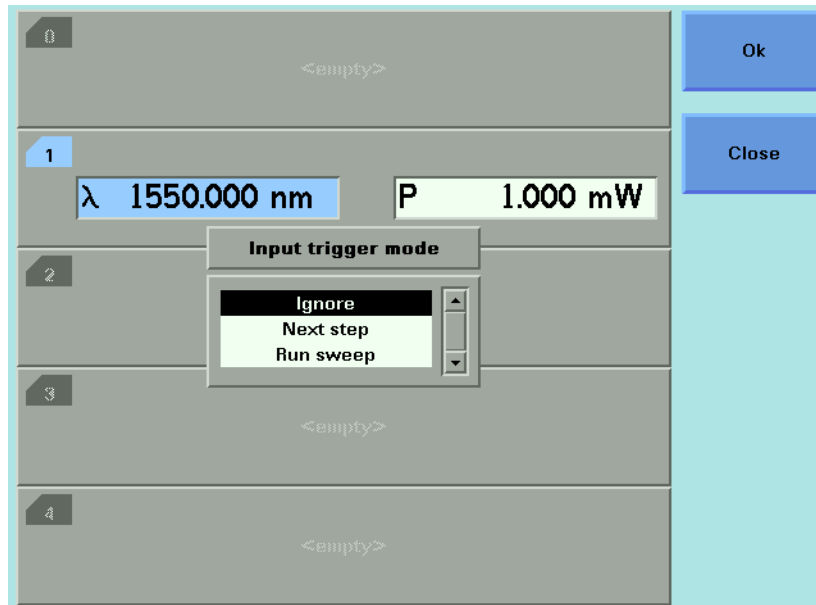

Figure 79 Input Trigger Mode
- 3 Move to *<Input Trigger Mode>*, by using the cursor key, and press ENTER. You will see the screen in Figure 79.